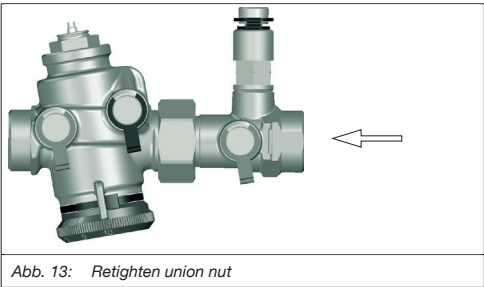

Abb. 13: Retighten union nut
- Retighten the union nut (see Abb. 13).